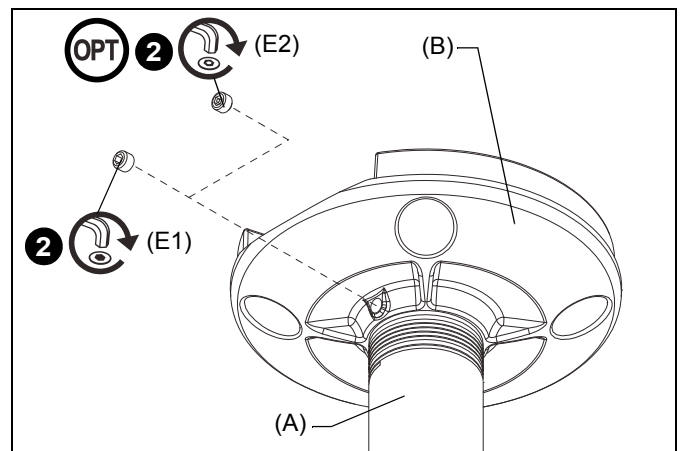

Figure 7
- Install 3" fixed pipe (A) into threaded collar of ceiling plate (B) until tight, with a minimum of four threads engaged. (See Figure 7)
- Secure extension column by *one* of the following methods: (See Figure 7)
- Install one 5/16" x 1/4" set screw (E1) into threaded hole in ceiling plate (B), tightening firmly against column.
- OPTIONAL:** Using 5/32" security hex key (G2), install one 5/16" x 1/4" security set screw (E2) into threaded hole in ceiling plate (B), tightening firmly against column.